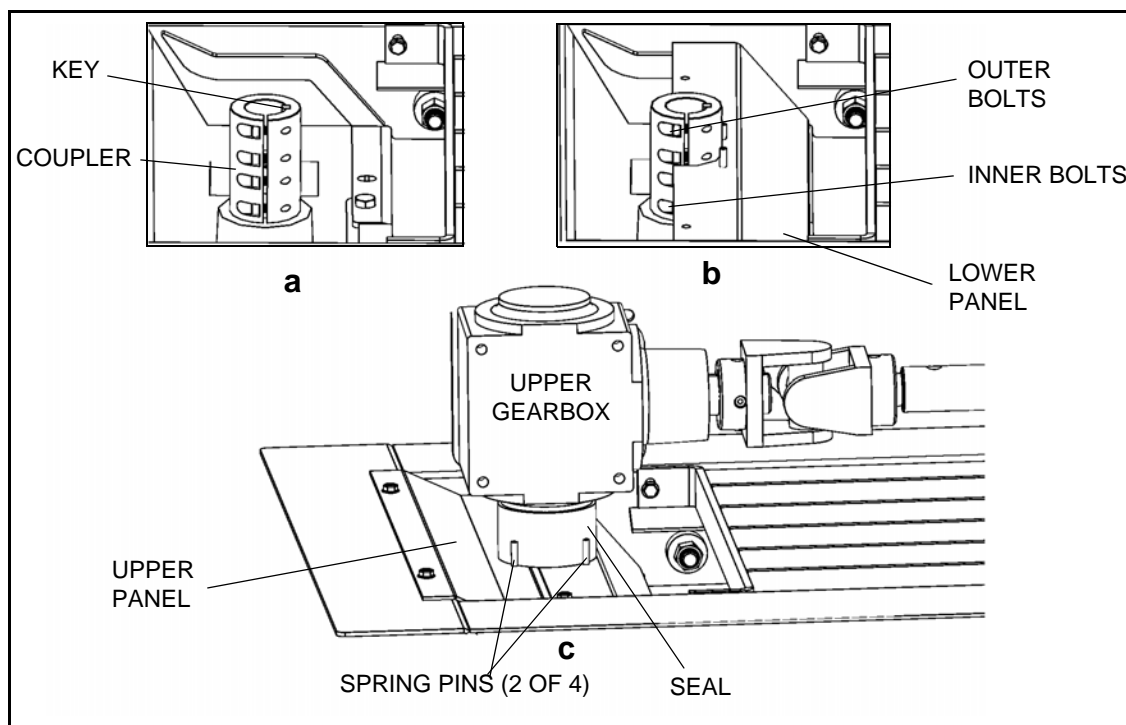

Figure 4.33
3. Slip the coupler over the lower gearbox shaft and align the coupler keyway with the shaft keyway. Once aligned, insert a key to secure the attachment (see a, Figure 4.33).
4. Insert two spring pins halfway into the holes of the lower panel and install the panel into the center hopper (see b, Figure 4.33).
5. Slip the seal in between the upper part of the coupler and two spring pins. Using the square key as guide, slide top gearbox shaft into the driveshaft coupler (see c, Figure 4.33). Make sure to **fully** engage both gearboxes into the coupler.